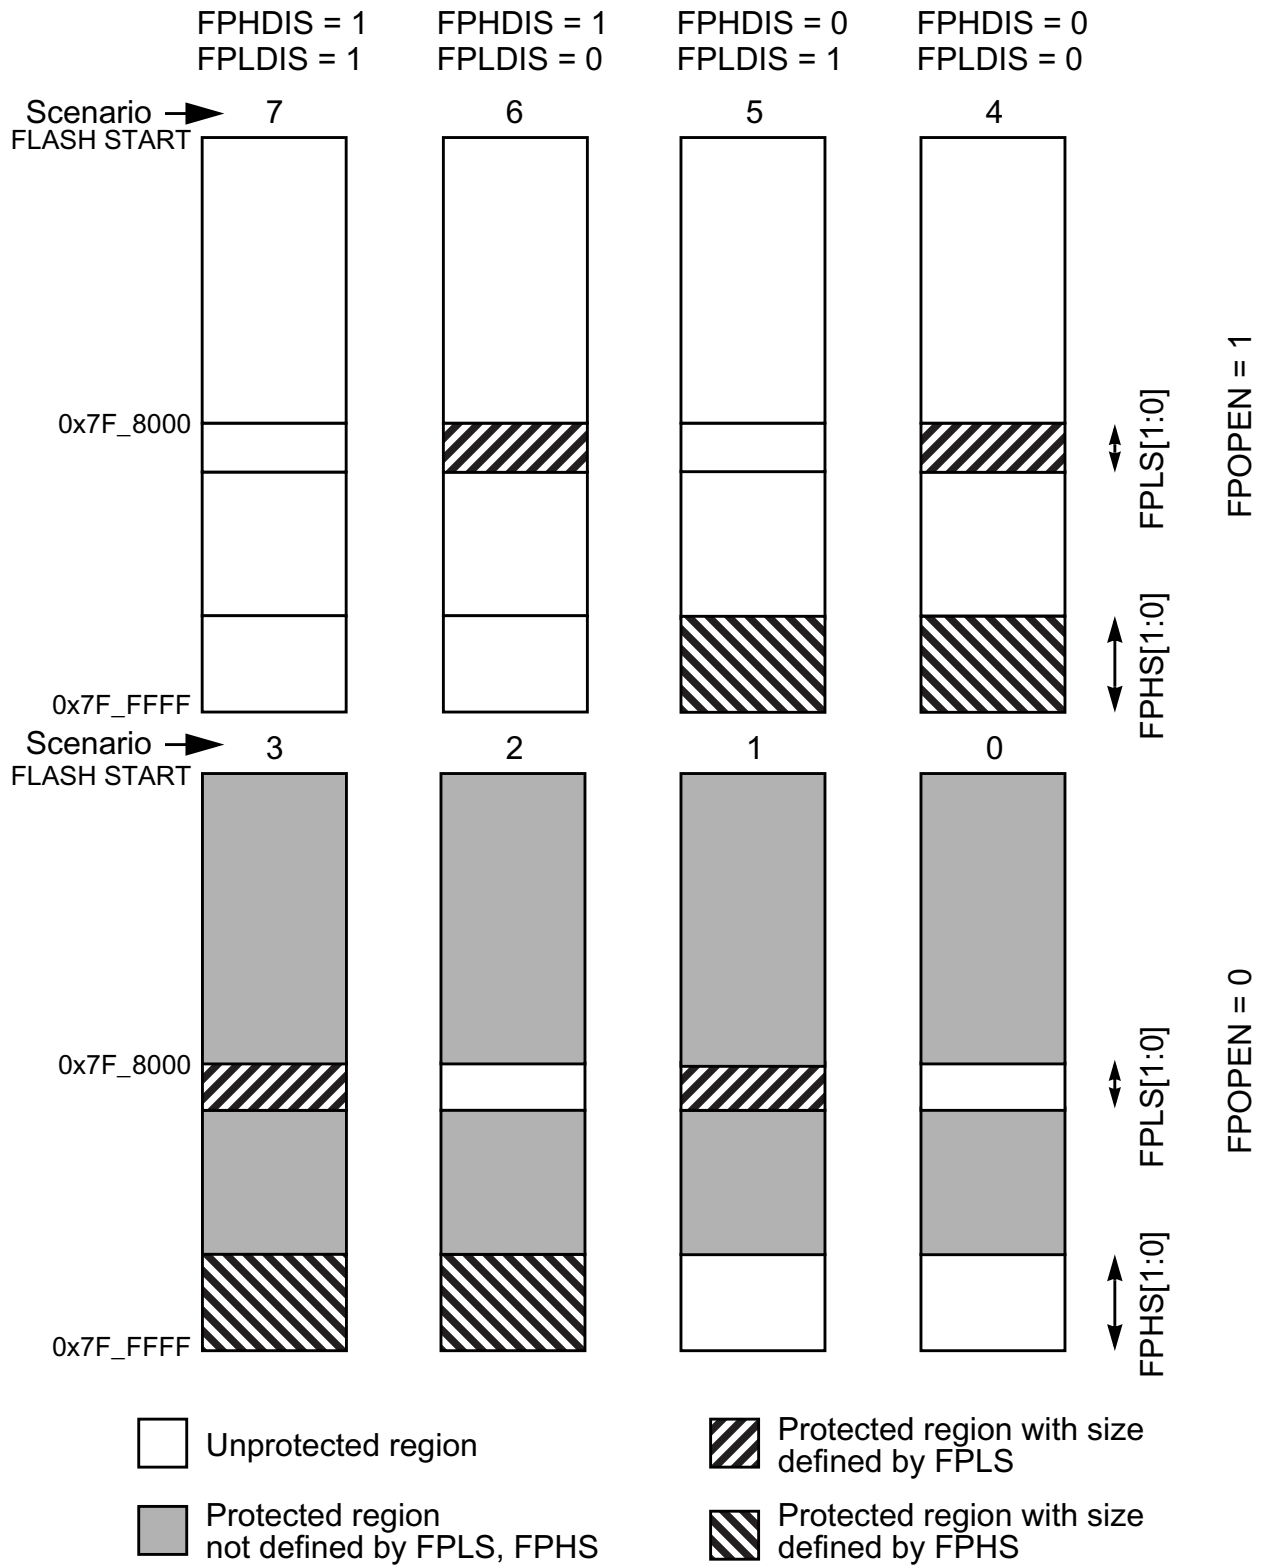

Figure 10-14. P-Flash Protection Scenarios
All possible P-Flash protection scenarios are shown in Figure 10-14. Although the protection scheme is loaded from the Flash memory at global address 0x7F\_FF0C during the reset sequence, it can be changed by the user. The P-Flash protection scheme can be used by applications requiring reprogramming in single chip mode while providing as much protection as possible if reprogramming is not required.
1. Allowed transitions marked with X, see Figure 10-14 for a definition of the scenarios.